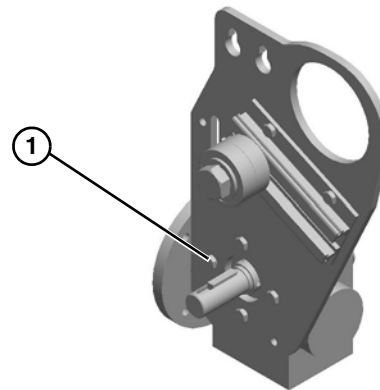

Figure 35
- Install gear reducer to mounting bracket and tighten bolts (**Figure 35, item 1**) to 110 in-lb (12 Nm).